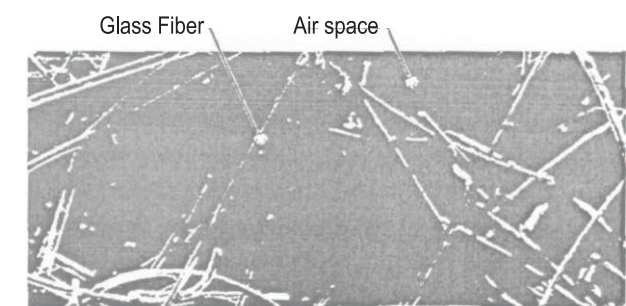
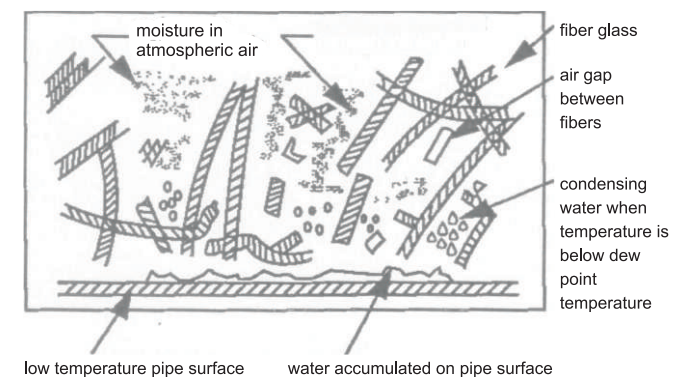
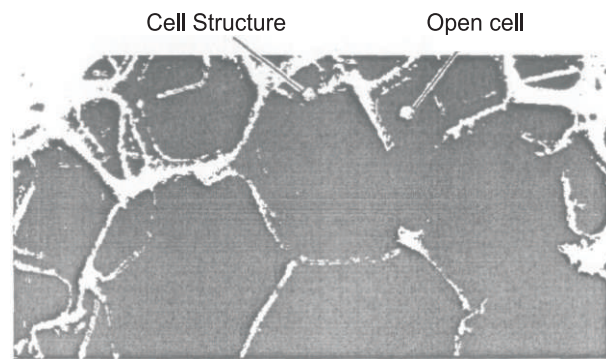

FIGURE 4
FIGURE 5
FIGURE 6
1) **Open Cell Type:** Airspaces are interconnected in this type of insulating materials. As shown in Fig. 4, this type of insulation is made from compact small glass fibres. Air occupies the spaces between the fibres. Figure 5 - shows how moisture penetrates into such insulation and condenses into water droplets at the point within the insulation where the temperature drops to the condensation point
Figures 6 and 7 - shows open-cell material and a two-dimensional representation of a sponge; made from poly-urethane that is used to filter air. Insulations that are made from calcium silicate also have such similar structure. These types of insulations are best used with equipment or pipes which are hotter than the boiling point of water (100°C). Water contained in the insulation will be evaporated and dispersed to the air outside. This will cause the air in the insulating material to become dry, giving it uniformity in its performance as an insulator. If this kind of insulation is used with cooling pipes, moisture-proofing material should be used to prevent condensation and formation of water droplets. If water penetrates into the insulation and spreads through it, it will become impossible to repair only a single part of it (see Figure 5). Besides using moisture-proofing, proper installation is also very necessary as the slightest tear can cause the insulation to deteriorate rapidly.